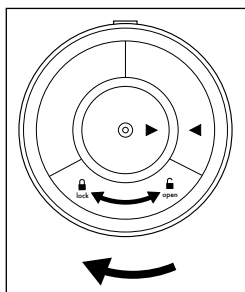

Fig. 2
7. Replace the battery compartment latch **13**. Turn the battery compartment latch **13** clockwise towards the **lock**  symbol until the two symbols   are aligned and the battery compartment latch **13** audibly clicks into place (see fig. 2).